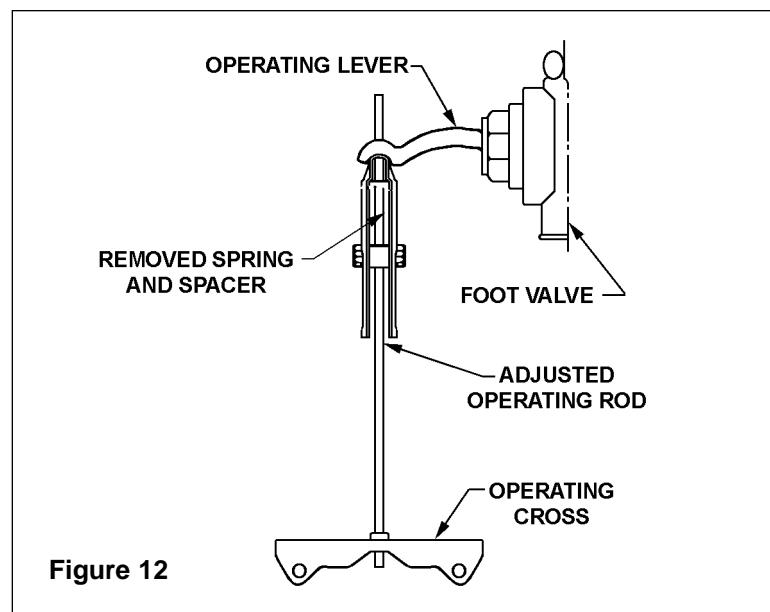

Figure 12
2. When movement of the operating rod is insufficient to open the foot valve, disassemble the rod and remove the spacer and override spring. Reassemble the operating rod as shown in Figure 12.